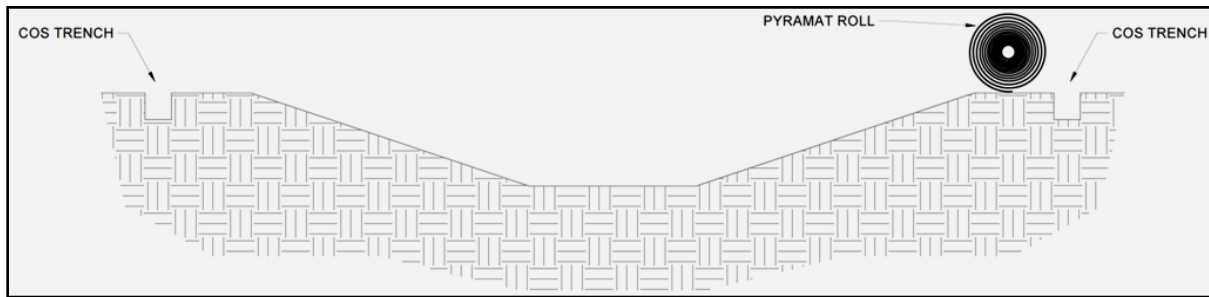
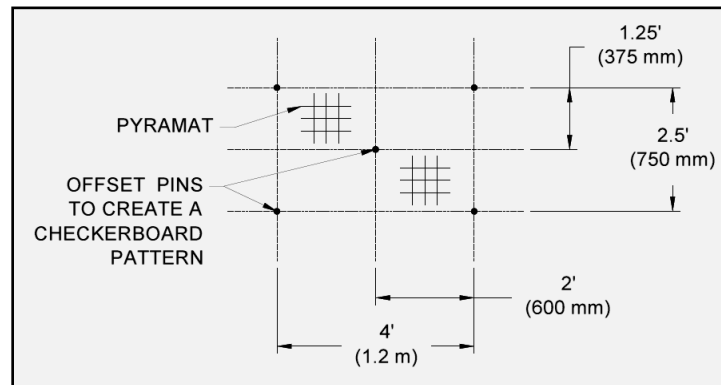
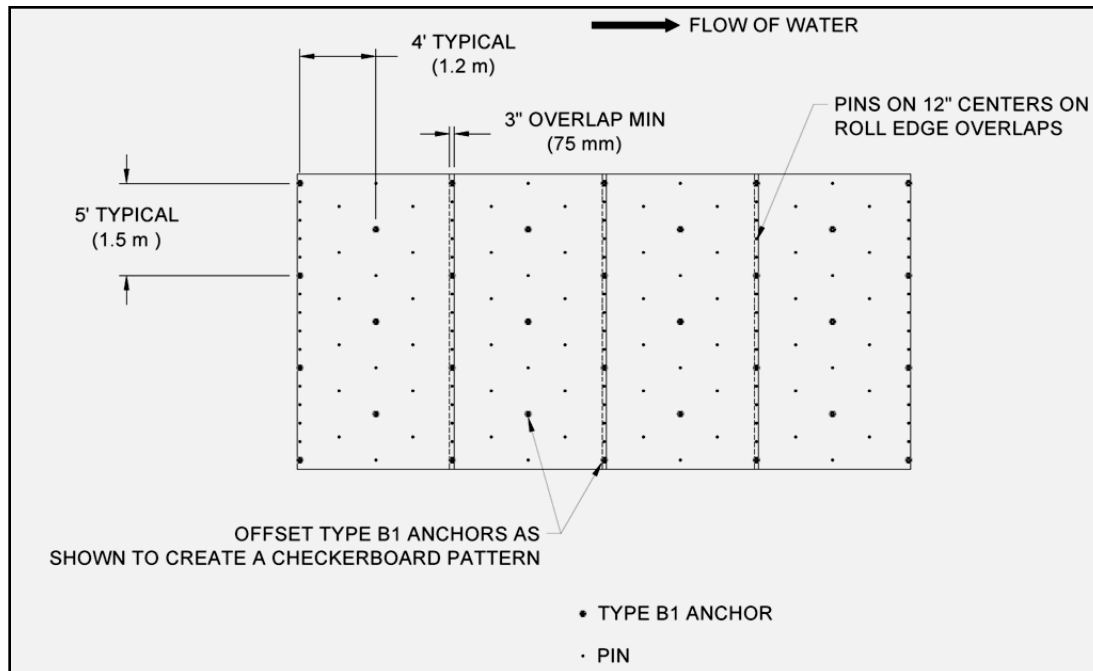

Figure 17: Crest of Slope (COS) Trench Alignment
Figure 20: Example Pin Pattern
Figure 21: Example PDEA Pattern - 0.5 Anchors/ Yd2
6. Place the next Pyramat panel by laying the Pyramat roll so that the roll end points towards the COS trench (Figure 17), with a 3 inch (75 mm) overlap created at adjacent panel edge locations. Ensure that adjacent panel edges maintain a minimum 3 inch (75 mm) overlap during *Pyramat Laydown*. (Figure 21)
10. Secure Pyramat panels in place using pins and PDEAs across the channel surface according to the project's engineered design. Pin and PDEA placement should reflect a staggered checkerboard pattern across the channel surface for best results (Figure 20 and Figure 21).
- Roll edges shall be overlapped a minimum of 3 in (75 mm) with pins placed on 12 in (300 mm) centers in between PDEAs on 4 ft (1.2 m) centers (Figure 21).